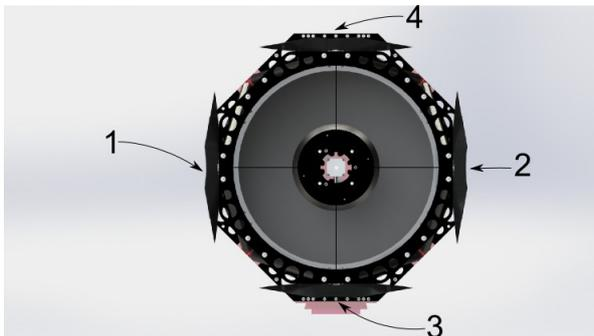

Fig. 1: Motors positions
- Identify the faulty motor (see Fig. 1)